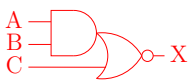

Figure 4: Symbol of the **qux** gate
3. Using the style seen in class we could represent the **qux** gate as shown on Figure 4.